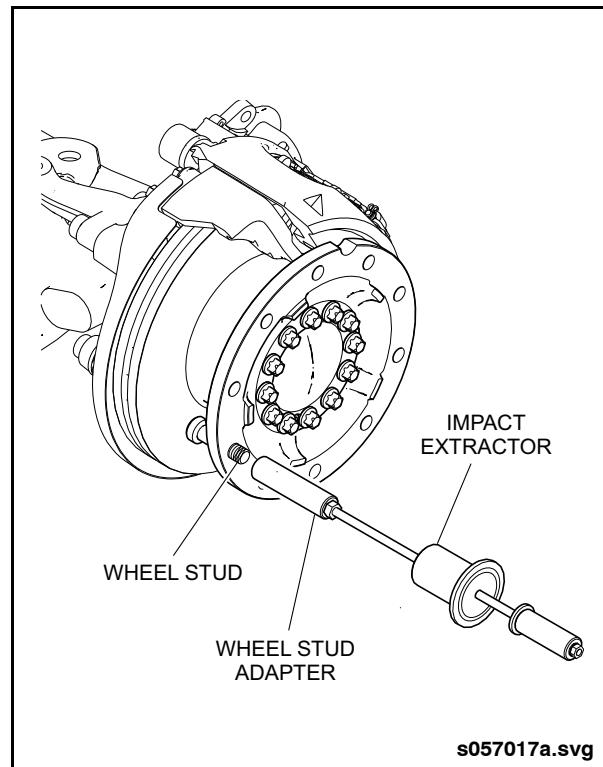

Fig. 1-7: Wheel Bolt Installation
1. Insert a new wheel bolt with the truncated end facing the wheel hub. See "Fig. 1-7: Wheel Bolt Installation" on page 9.